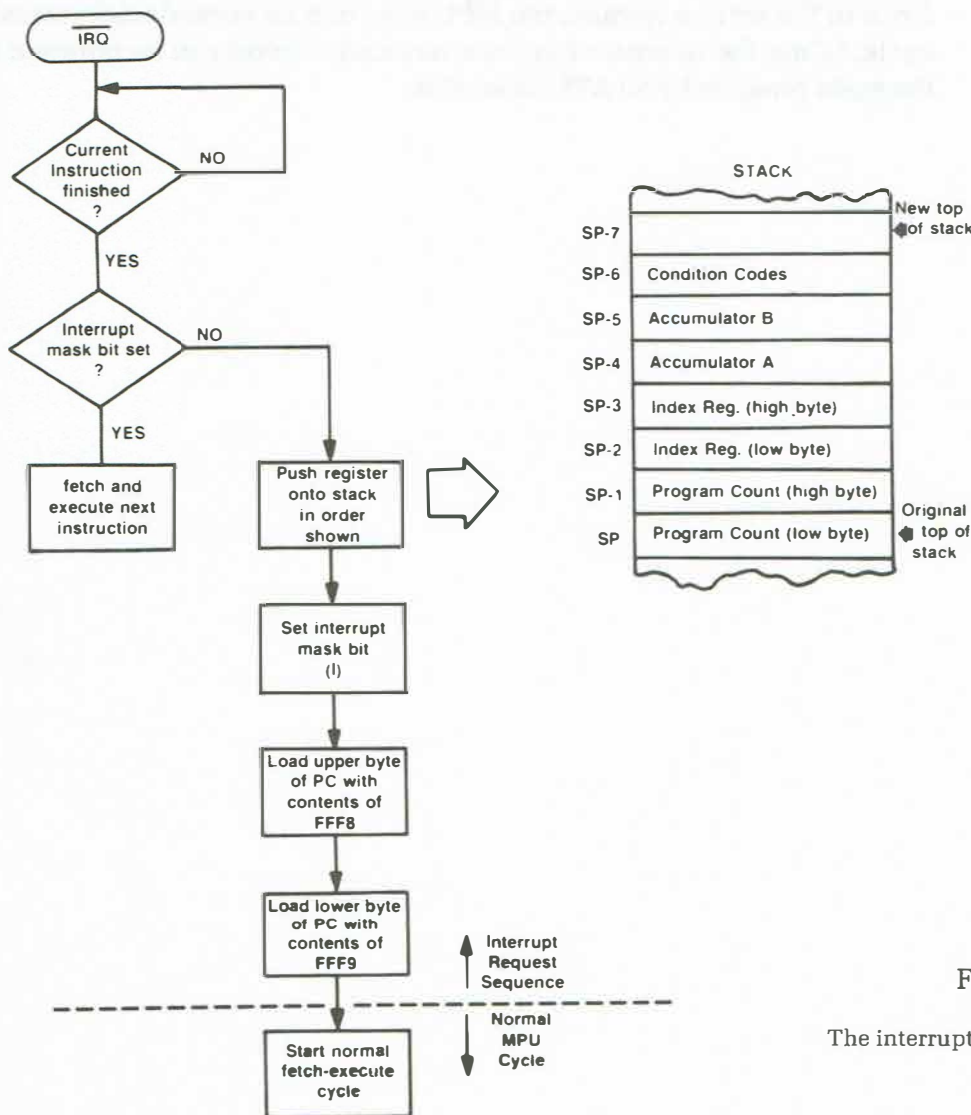

Figure 6-48
The 6808 MPU has a control line called the interrupt request ( $\overline{\text{IRQ}}$ ) line. When this line is low, an interrupt sequence is requested. However, the MPU may or may not initiate the sequence, depending on the state of the interrupt mask (I) bit in the condition code register. If the (I) bit is set, the MPU ignores the interrupt request. If the (I) bit is not set, the MPU initiates the interrupt sequence. The procedure is very similar to the  $\overline{\text{NMI}}$  procedure discussed earlier. Figure 6-48 shows the  $\overline{\text{IRQ}}$  interrupt procedure.